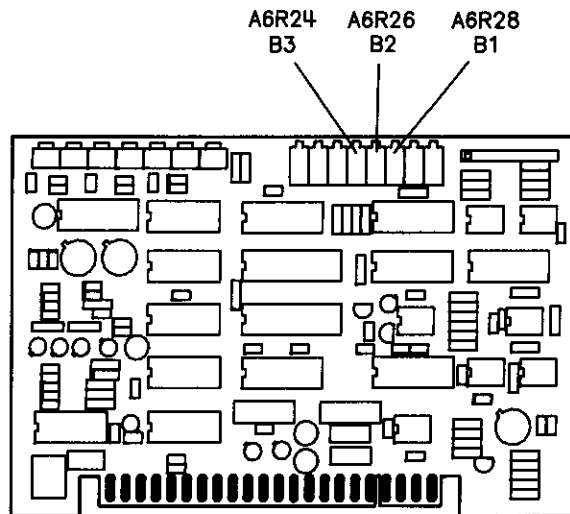
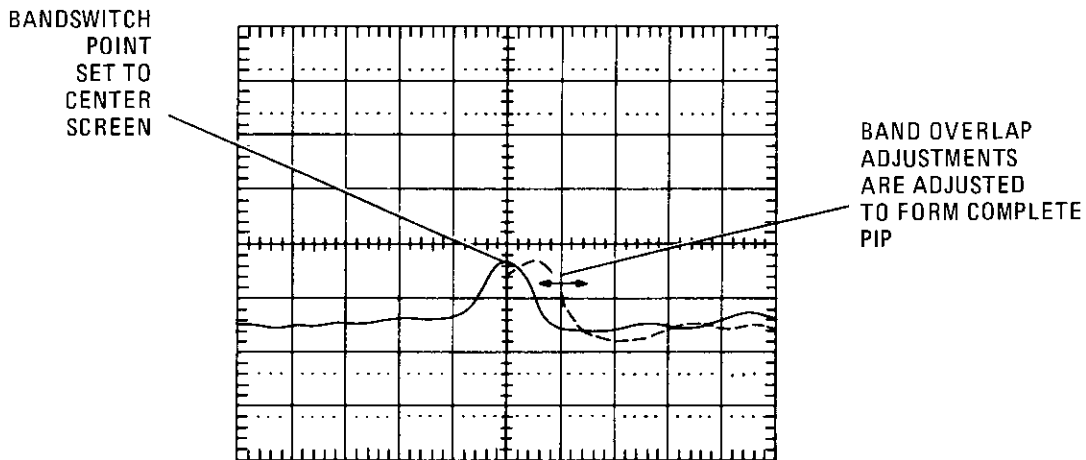

Figure 5-25. Band Overlap Adjustment Locations
Figure 5-26. Band Overlap Adjustment Waveform
7. Adjust A6R28 (B1) to bring the right side pip over to the switch point so that the left half of this pip mates with the right half of the other as shown in Figure 5-26. Refer to Figure 5-25 for the adjustment location. The pip should be undisturbed as it moves through the bandswitch point.